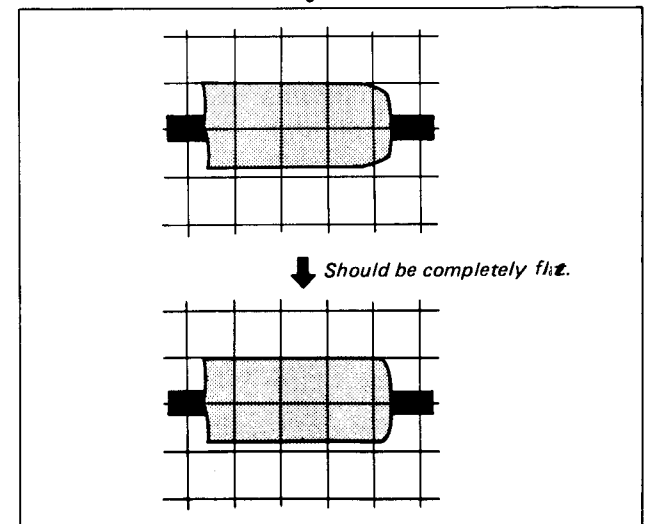

Fig. 1-81
- 4) Rotate No. 4 guide clockwise to make the RF waveform on the outlet side completely flat and slightly rotate clockwise (approximately 15°) from this condition. (See Fig. 1-81.)